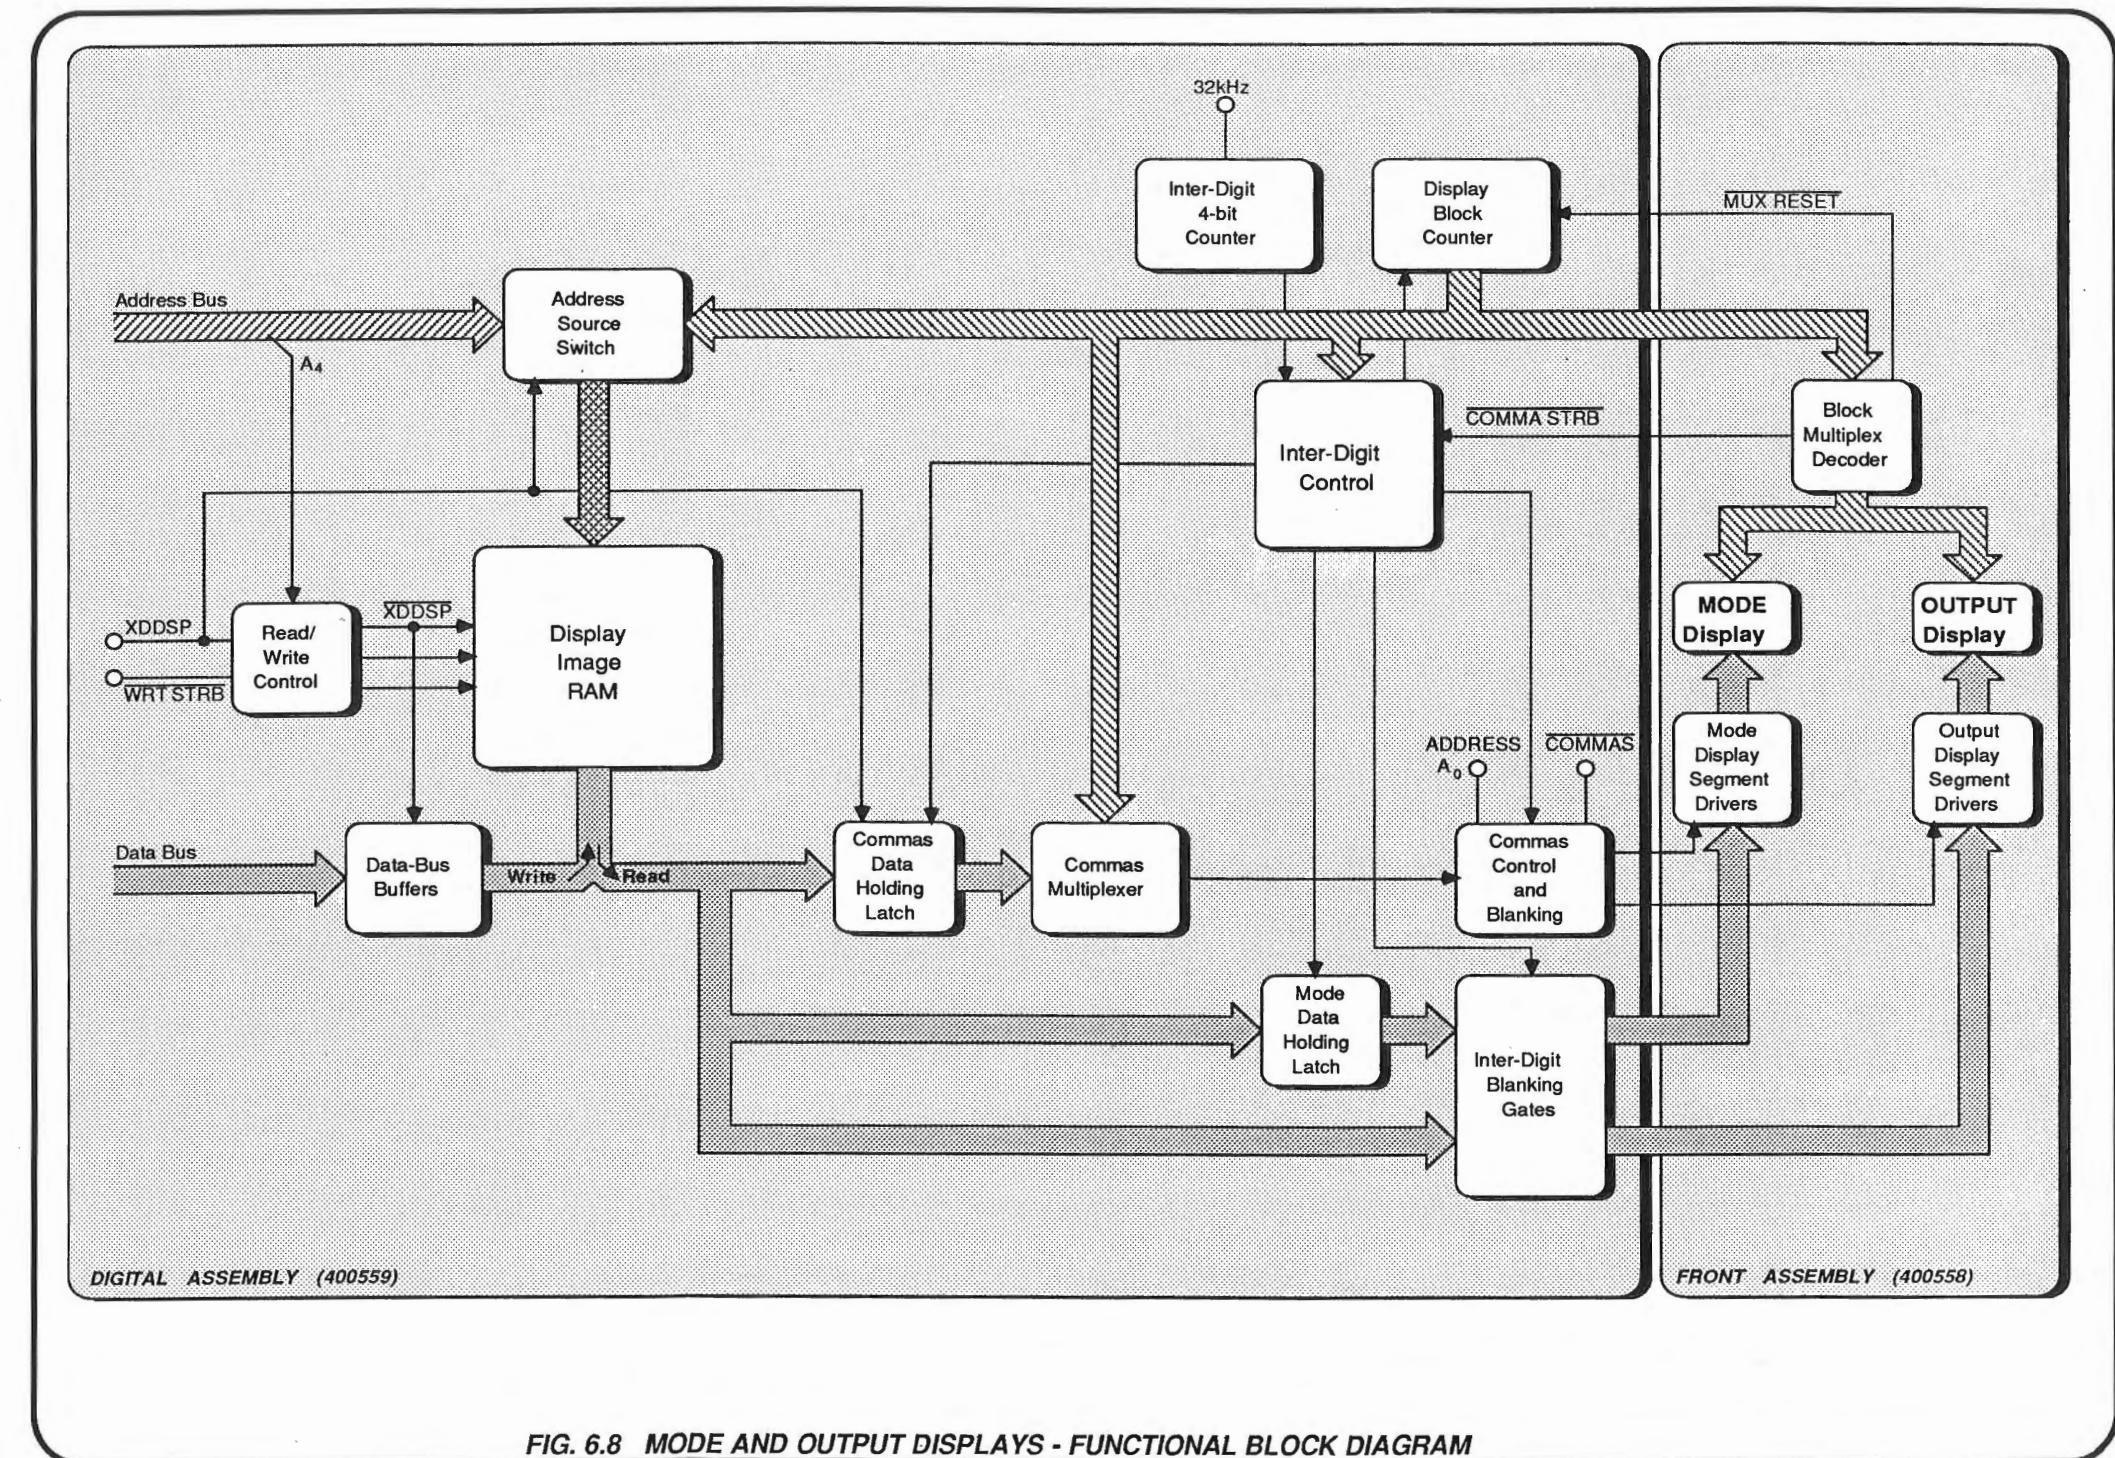

FIG. 6.8 MODE AND OUTPUT DISPLAYS - FUNCTIONAL BLOCK DIAGRAM
The two plasma displays, the block multiplex decoder, segment drivers and high voltage circuits are located on the Front assembly (400558). The block diagram of Fig.6.8 shows the arrangement and main interconnections of the display circuitry.
6.3.1 GENERAL (Fig.6.8)